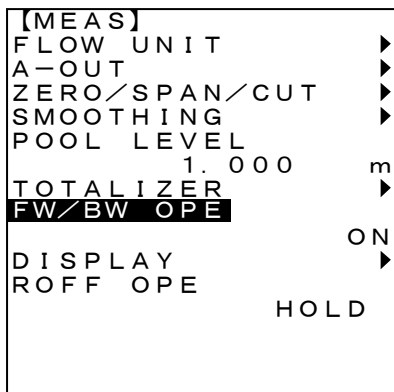

Fig. 4-7-15 Setting change confirmed by pressing <ENT>, or
3. Press the <ENT> key to confirm the change (Fig. 4-7-15), or